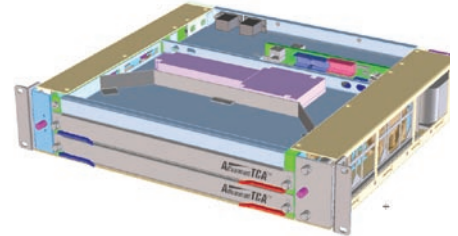

Figure 2
Initially targeted to be telco-centric, AdvancedTCA is expected to dominate in the Central Office (CO). However, designers are increasingly considering the AdvancedTCA form factor for applications in mil/aero, enterprise computing, research labs, and server farms. For the non-CO applications, AC power versions are popular. To save space, designers use thin power supply units in smaller horizontal chassis. For example, in the Elma 2U chassis shown in Figure 2, the power supply is just above the card cage. There is also room for pluggable shelf managers.